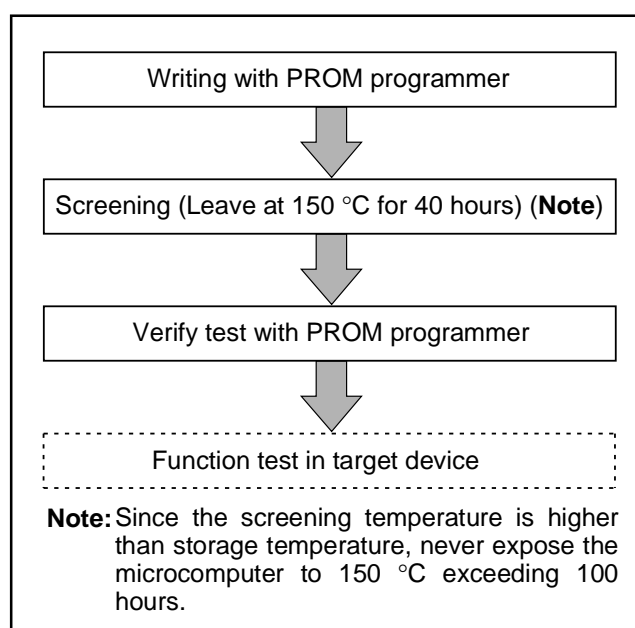

Fig. 77 Flow of writing and test of the product shipped in blank
① A high-voltage is used for writing. Take care that overvoltage is not applied. Take care especially at turning on the power.
② For the One Time PROM version shipped in blank, Renesas Technology corp. does not perform PROM writing test and screening in the assembly process and following processes. In order to improve reliability after writing, performing writing and test according to the flow shown in Figure 77 before using is recommended (Products shipped in blank: PROM contents is not written in factory when shipped).